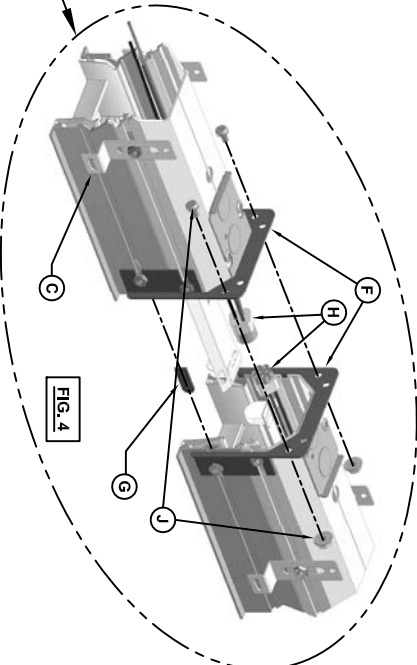

FIG. 4
POSITION THE NEXT FIXTURE SUCH THAT THE ALIGNMENT TABS (G) (REF. FIG. 4) AND LAMP SOCKET PLATE FIT INTO THE FIRST FIXTURE. MAKE CONNECTION OF THE WIRE HARNESS AND PUSH EXCESS WIRE BACK INTO FIXTURE. MAKE SURE THAT WIRE IS NOT PINCHED BETWEEN JOINT AND SLIDE FIXTURES TOGETHER. INSTALL NUTS AND BOLTS (J) ONTO CROSS BRACES (F) AND TIGHTEN SECURELY PULLING THE TWO FIXTURES TOGETHER. ADJUST SAFETY BRACKETS (C) INTO POSITION FOR ATTACHMENT TO TEE AT A LATER TIME.